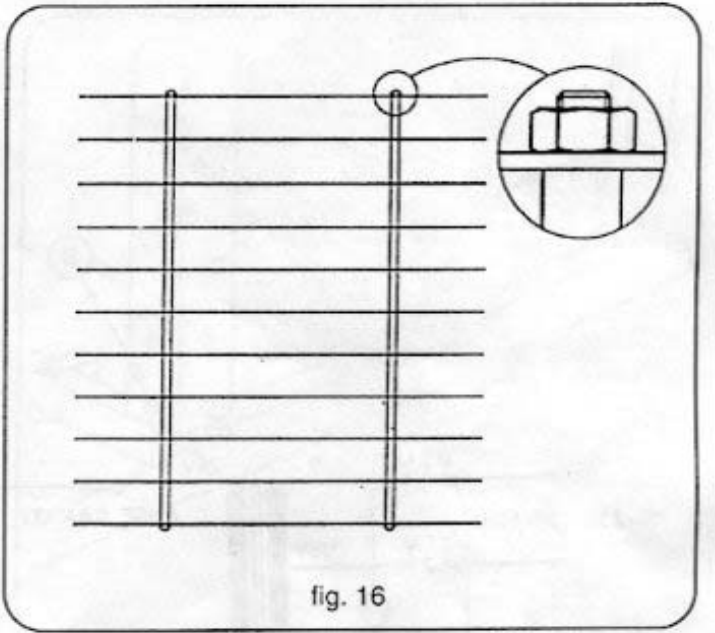

fig. 16
- Prepare the grid (fig. 16) on a flat surface, and fasten with the 4 M10 nuts.